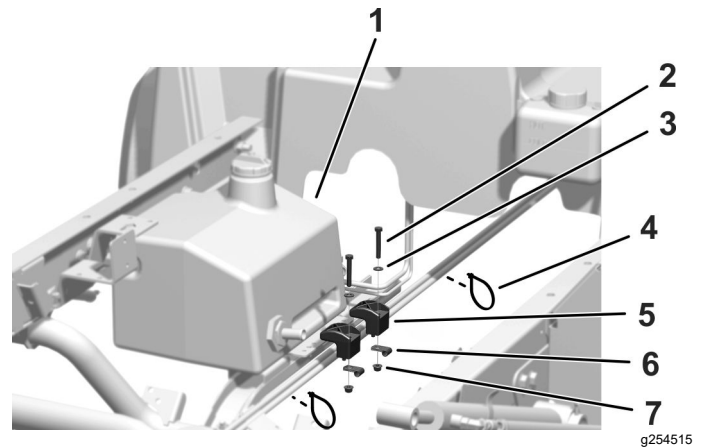

Figure 9
2. Secure the bottom of the hydraulic tank to the frame brace with 2 tank clamps, 2 small P-clamps, 2 screws (5/16 x 2 inches), 2 flat washers (11/32 inch), and 2 flange nuts (5/16 inch) as shown in Figure 9.
3. Secure the cables using the 2 cable ties (Figure 9).